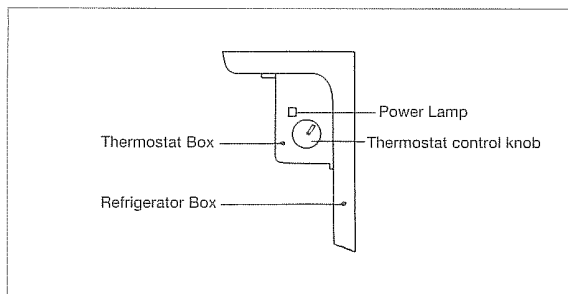

Fig. 7
3. Set the thermostat box side wall of the refrigerating box, within reach, referring to (Fig. 7) Turn the thermostat control knob to the "off" position.